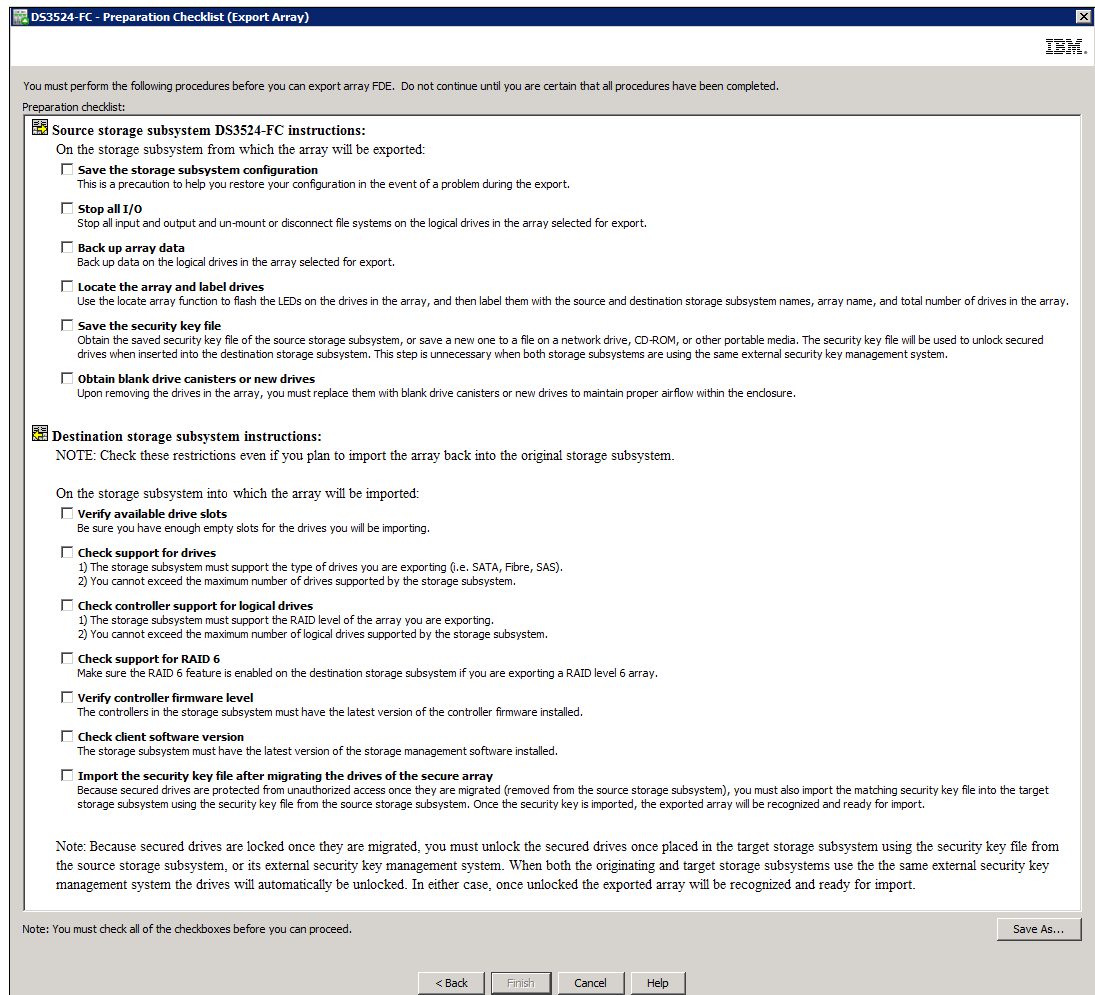

Figure 15-25 Preparation checklist
This list is displayed in a window of the migration wizard (Figure 15-25 on page 463). It is important to follow this list when planning an export and import of an array.
3. The window with the preparation checklist opens as shown in Figure 15-25 on page 463. Check that no planning steps have been missed. All check boxes must be checked before you can proceed.